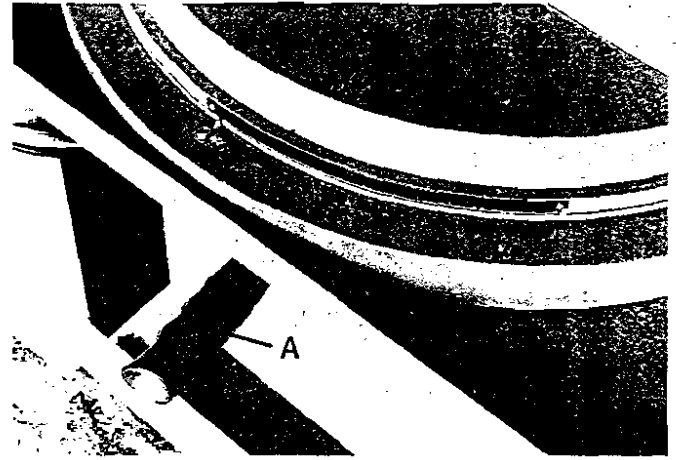

FIG. 12
It is easily to accomplish locking and unlocking of turntable, move hand bar (A) Fig.12 to the left for unlocking, turn the turntable to desired angle and move it back to the right to lock the turntable. Remember to oil the turntable periodically, especially wet cut is frequently used.